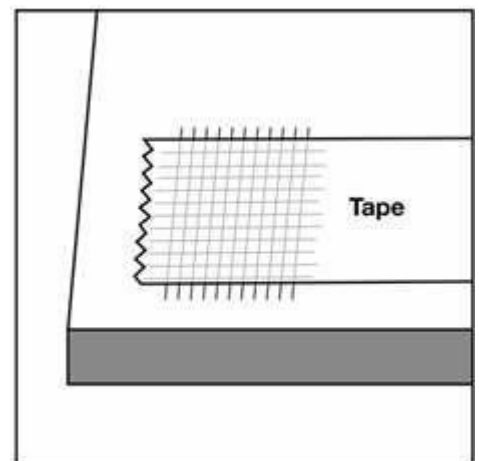

Figure 4e
3. Pressing firmly, apply a $1/2''$ -wide strip of strong tape (i.e., Scotch™ brand) across the scored area (Figure 4e).